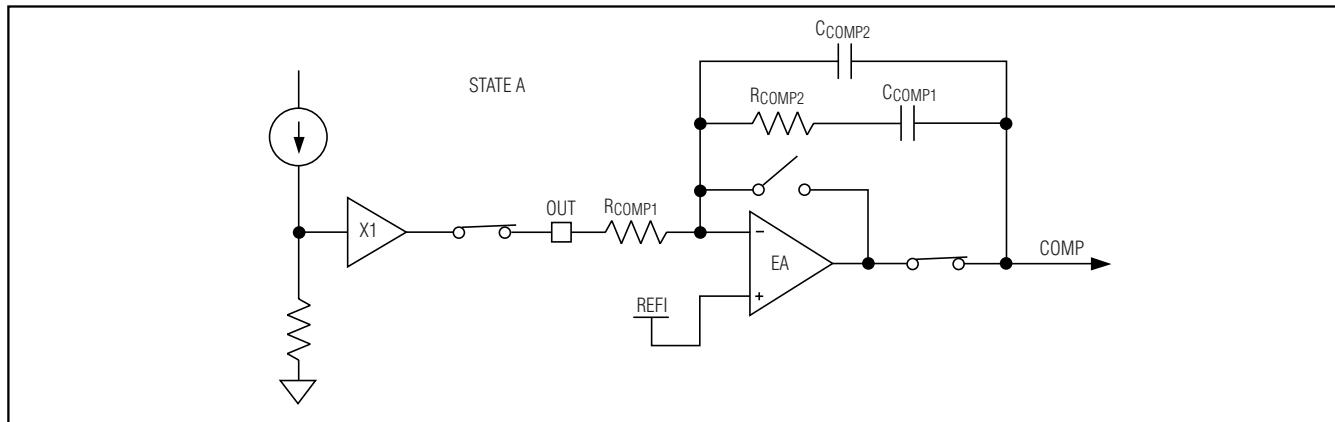
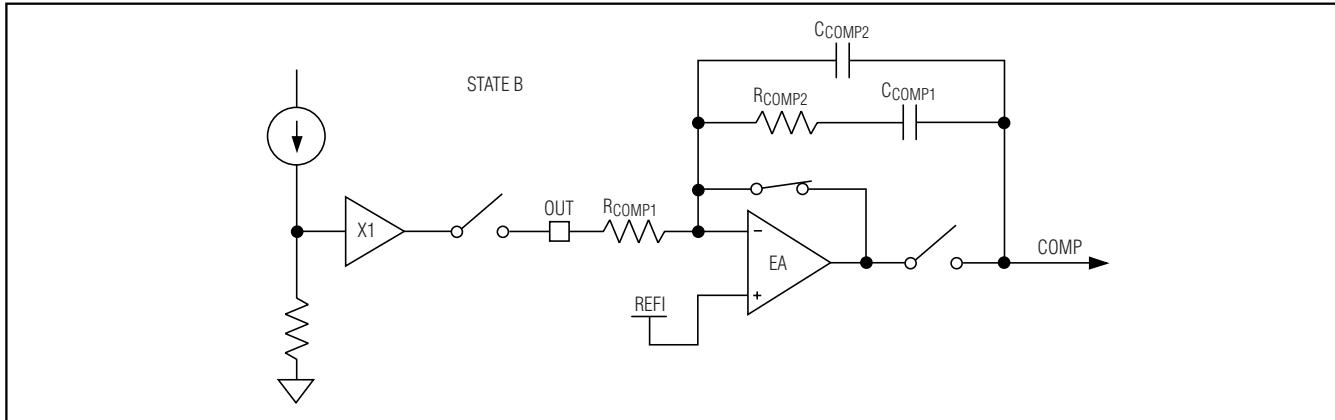
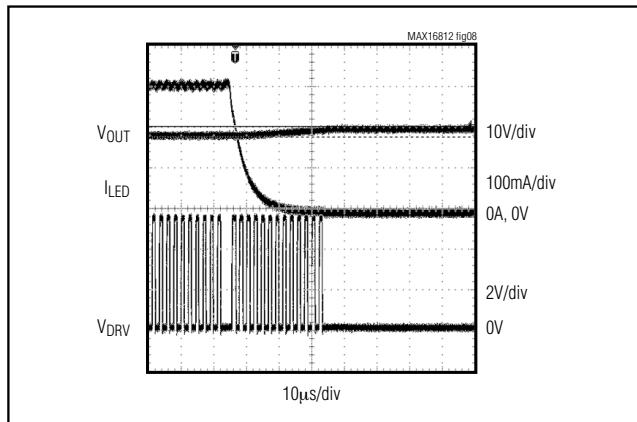

Figure 4. Internal Error Amplifier Connection (Dimming Signal High)
Figure 5. Internal Error Amplifier Connections (Dimming Signal Low)
Figure 8. LED Current, Output Voltage, and DRV Waveforms when DIM Signal Goes Low
The MAX16812 includes a built-in voltage-error amplifier, which can be used to close the feedback loop. The internal LED current-sense output signal is buffered internally and then connected to CS\_OUT through an internal switch. CS\_OUT is connected to the inverting input (FB) pin of the error amplifier through a resistor. See Figures 4 and 5. The reference voltage for the output current is connected to REFI, the noninverting input of the error amplifier. When the internal dimming signal
is low, COMP is disconnected from the output of the error amplifier and CS\_OUT is simultaneously disconnected from the buffered LED current-sense output signal (Figure 5). When the internal dimming signal is high, the output of the op amp is connected to COMP and CS\_OUT is connected to the buffered LED current-sense signal at the same time (Figure 4). This enables the compensation capacitor to hold the charge when the DIM signal has turned off the internal switching MOSFET gate drive. To maintain the charge on the compensation capacitors  $C_{COMP1}$  and  $C_{COMP2}$ , the capacitors should be of the low-leakage ceramic type.
PWM dimming can also be achieved by connecting TGRM to a DC voltage less than VREF and applying the PWM signal at DIM. The moment the internal dimming signal goes low, gate drive DRV to the internal switching MOSFET is turned off. The error amplifier goes to state B (see the *Internal Error Amplifier* section and Figures 4 and 5). The peak current in the inductor prior to disabling DRV is  $I_{LX}$ . Gate drive DGT to the external dimming MOSFET is held high. Then after a switchover period, gate voltage  $V_{DGT}$  on the external dimming MOSFET is linearly controlled to reduce the LED current to 0. The fall time of the LED current is controlled by an internal timing circuit to 5µs for the MAX16812. During this period, the gate (DRV) to the internal switching MOSFET is enabled. After the fall time, the gate drive to the external dimming MOSFET is turned off and the gate drive to the internal switching MOSFET is still held high after the switchover period. The peak current in the inductor is controlled at  $I_{LX}$ . Then after a time period of 20µs, the gate drive is disabled. The scope shots in Figures 8–11 show the dimming waveforms.
When the DIM signal goes high, the LED current is gradually increased to the programmed value. The rise time of the LED current is controlled to 5μs for the MAX16812 by controlling the voltage on DGT. After the rise time, an internal sensing circuit monitors the voltage across the drain to the source of the external dimming MOSFET. The LED current is now controlled at the programmed value by a linear current regulating circuit. Once the voltage across the drain to source of the dimming MOSFET drops below 0.5V, the reference for the linear current regulating circuit is increased to 1.1 times the programmed value. The gate drive (DRV) to the internal switching MOSFET is enabled and the error amplifier is returned to state A (see the *Internal Error Amplifier* section and Figures 4 and 5).